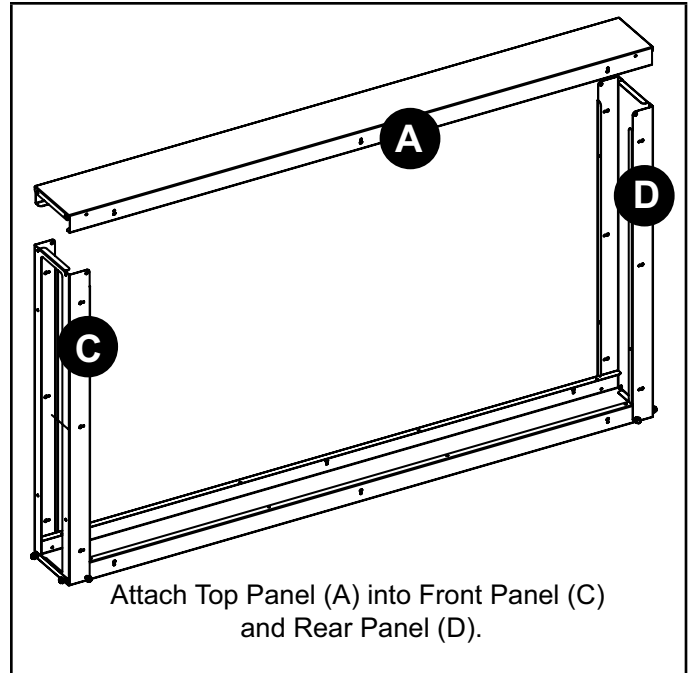

FIGURE 10. Install Top Panel (A)
- 2 - Align and attach rear panel D into Top / Bottom Panel A (see figure 10).